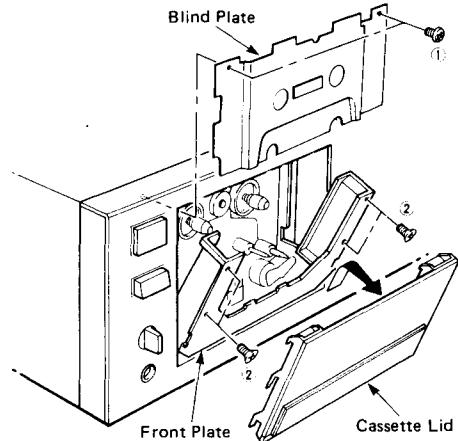

Fig. 1
- ④ dbx Circuit Board
- ⑤ Dolby Circuit Board
- ⑥ CAPSTAN MOTOR
- ⑦ REEL MOTOR
- ⑧ ASSIST MOTOR
- ⑨ μ-COM IC: LM6402G-494
- ⑩ POWER CIRCUIT BOARD
- Remove 2 screws ① in Fig. 1 and remove the blind plate.
- Remove 4 screws ② in Fig. 1 and remove the front plate.